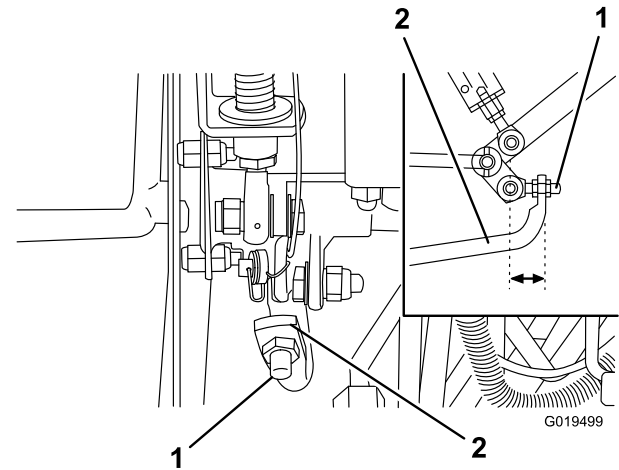

Figure 69
4. Adjust jam nuts on pump rod end to move pump control tube forward to eliminate forward creep or rearward to eliminate rearward creep (Figure 69).